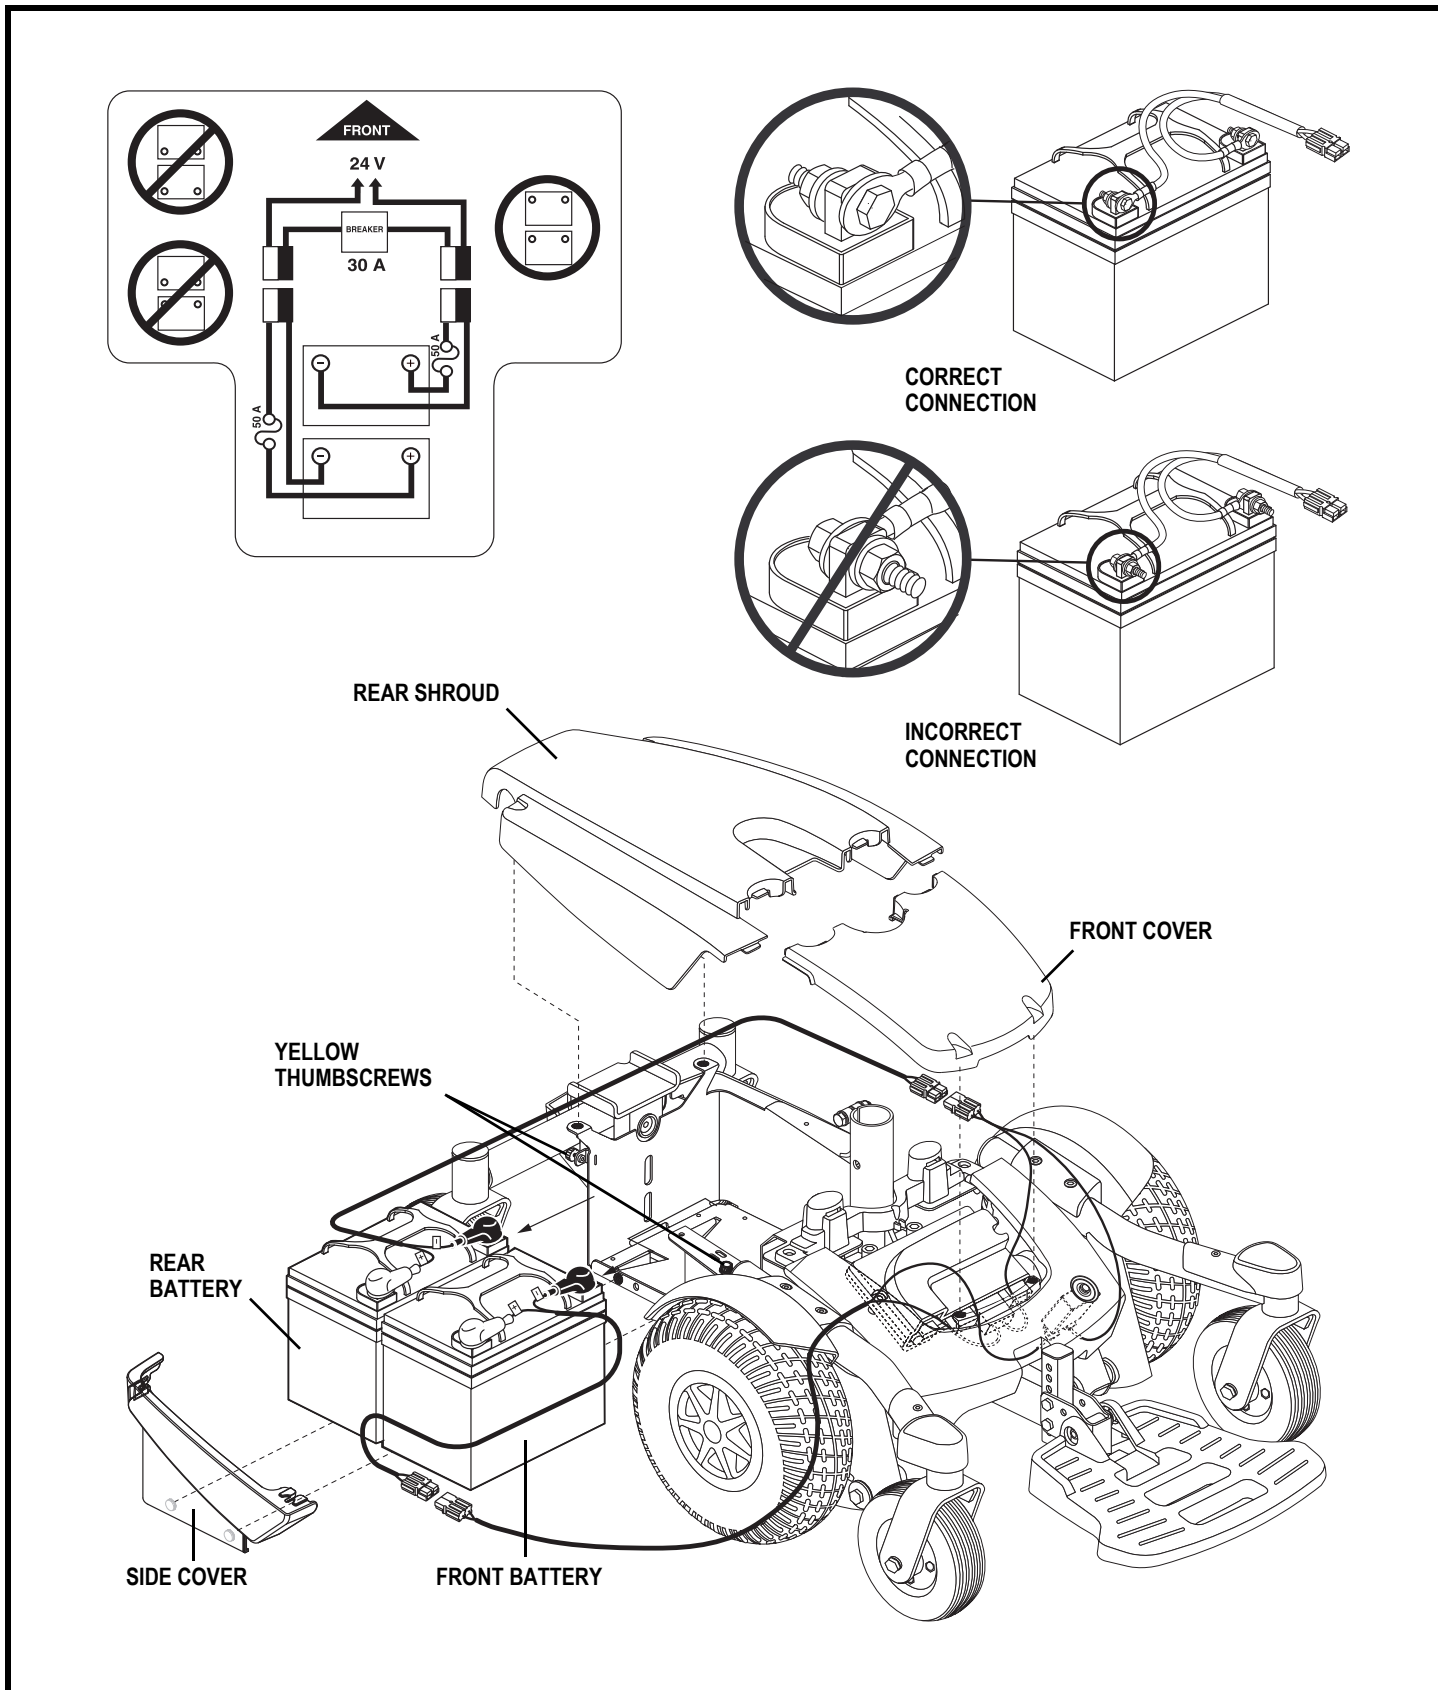

Figure 29. Battery Installation (Seat Removed for Clarity — Select 6 Shown)
3. Remove the rear shroud. See figure 29.
5. Disconnect the rear battery harness from the power base. See figure 29.
8. Disconnect the front battery harness from the power base. See figure 29.
10. Remove the battery harnesses from the old batteries and install them onto the new batteries. Make sure that the hardware is facing the correct direction. See figure 29.
11. Place the front battery into the power base. Make sure that the terminals are facing the front of the power base. See figure 29.
14. Place the rear battery onto the power base. Make sure that the terminals are facing the front of the power base. See figure 29.